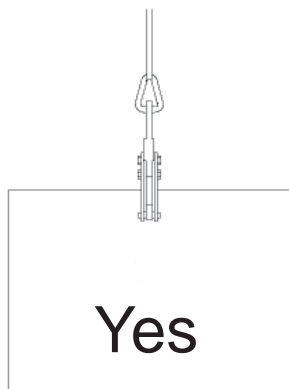

Figure 5: Always position the clamp in line with the sling.
12. Always use a sling to lift the clamp. Always position the clamp in line with the sling (Fig. 5).
13. If a clamp has been overloaded or damaged in any way, take the clamp out of service until proper repairs and/or testing has been completed (see “Monthly Inspection” items 2 and 3 for description of overload symptoms).
4. When using more than one clamp to lift material, make sure clamps are positioned to share equal loads. Place the clamps on a straight line with the slings (Fig. 5). Maintain a minimum angle of sixty degrees (60°) between the clamp and the material to be lifted.
- Always use a sling to lift the clamp. Always position the clamp in line with the sling (Fig. 5).
- If a clamp has been overloaded or damaged in any way, take the clamp out of service until proper repairs and/or testing has been completed (see “Monthly Inspection” items 2 and 3 for description of overload symptoms).